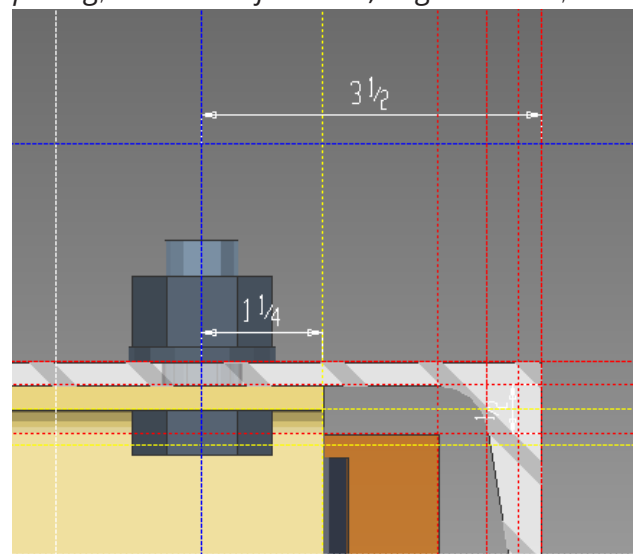

Figure 6: Girt Line to First Hole and Edge distance
- **Girt line to first hole:** This is the distance from the Secondary Girt member line to the location of the first bolt in the connection. Figure 6 is looking at web of the Secondary Girt framing to a horizontal girt at the top. Adjusting this will move the connection angle closer or further from the secondary girt member line.
- **Edge Distance:** This is the edge distance for the bolts in that leg to the edge of the angle, as shown in Figure 6, as the 1 1/4 dimension. This affects both edges of the angle equally.